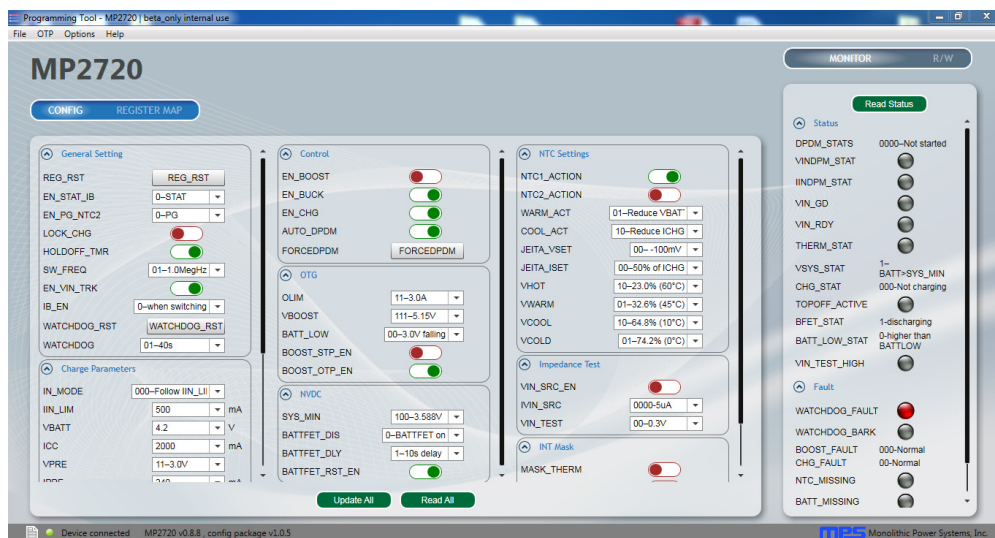

Figure 3: MP2720 Evaluation Software
8. Launch the MP2720 evaluation software. Figure 3 shows the GUI software’s main window.
1. Ensure that all the connections are successful, including the connection between the USB to I²C communication interface and the EV2720-RH-00A. Successful connections are indicated in green on the lower-left side of the window (see Figure 3 on page 3). Once all of the connections are successfully made, the program is ready to be used.